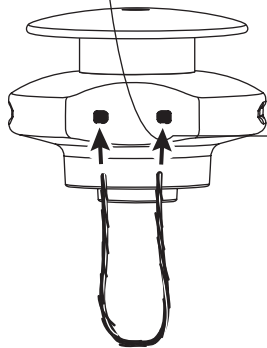

Fig. 19
1. Insert each end of the replacement line into the holes on either side of retention hook (Fig. 19).